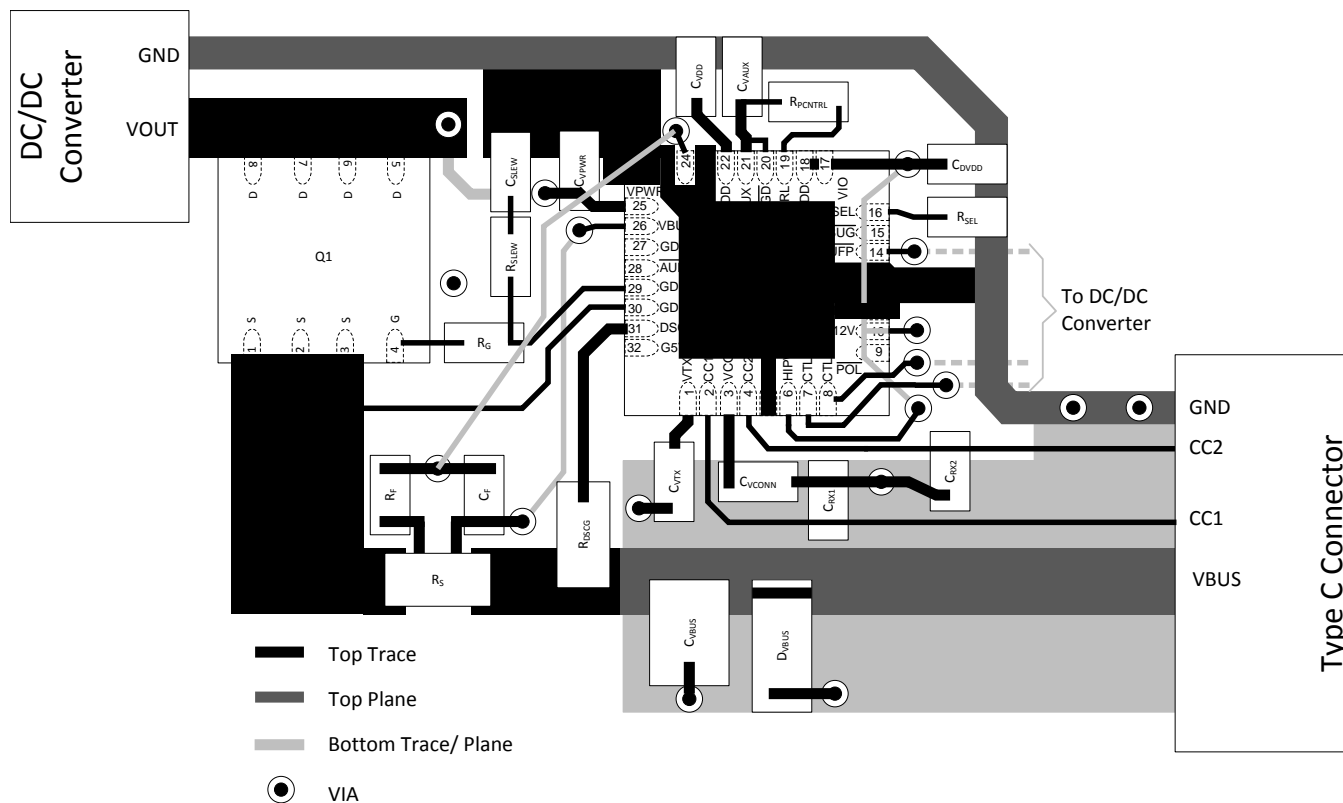

Figure 74. Layout Example
- C_{VPWR} : Place close to pin 25 (VPWR) and connect with low inductance traces and vias according to Figure 74.
- C_{VDD} : Place close to pin 22 (VDD) and connect with low inductance traces and vias according to Figure 74.
- C_{VCONN} : Place close to pin 3 (VDD) and connect with low inductance traces and vias according to Figure 74.
- C_{DVDD} : Place close to pin 18 (DVDD) and connect with low inductance traces and vias according to Figure 74.
- C_{VIO} : Place close to pin 17 (VDD) and connect with low inductance traces and vias according to Figure 74.
- C_{VAUX} : Place close to pin 21 (VAUX) and connect with low inductance traces and vias according to Figure 74.
- C_{VTX} : Place close to pin 1 (VTX) and connect with low inductance traces and vias according to Figure 74.
- R_S : Place R_S as shown in Figure 74 to facilitate uninterrupted power flow to the Type C connector. Orient R_S for optimal Kelvin sense connection/routing back to the TPS25741 or TPS25741A. In high current applications
- R_G : Place R_G near Q_1 as shown in Figure 74. Minimize stray leakage paths as the GDNG sourcing current could be affected.
- R_{SLEW}/C_{SLEW} : Place R_{SLEW} and C_{SLEW} near R_G as shown in Figure 74.
- R_F/C_F : When required, place R_F and C_F as shown in Figure 74 to facilitate the Kelvin sense connection back to the device.
The basic component placement and layout is provided in Figure 74. This layout represents the circuit shown in Figure 41. The layout for other power configurations will vary slightly from that shown below.